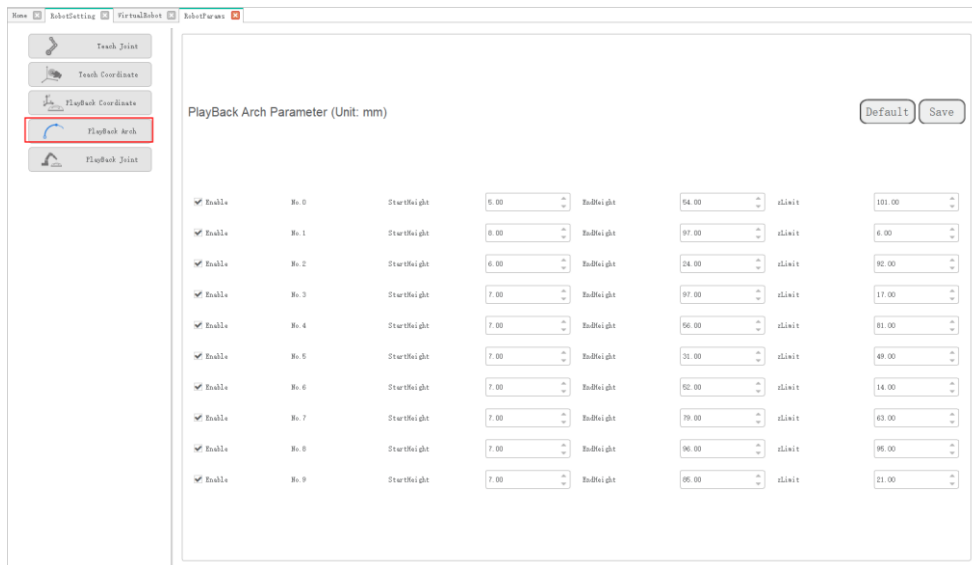

Figure 1.4 Playback parameters in the Joint coordinate system
- **Playback Joint Parameter:** Set the maximum velocity, acceleration, and jerk in the Joint coordinate system when running robot programs. The playback parameters of a 6-axis robot in the Joint coordinate system are as shown in Figure 1.4.